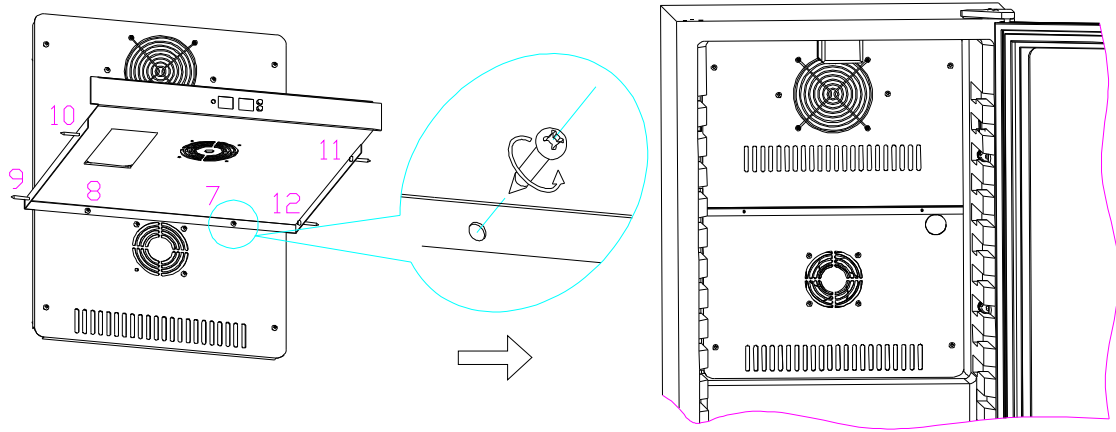

Fig.12
c.Remove the fixing screws (7,8,9,10,11,12), then pull out electric box (C) to expose the air duct board; (Fig.12)